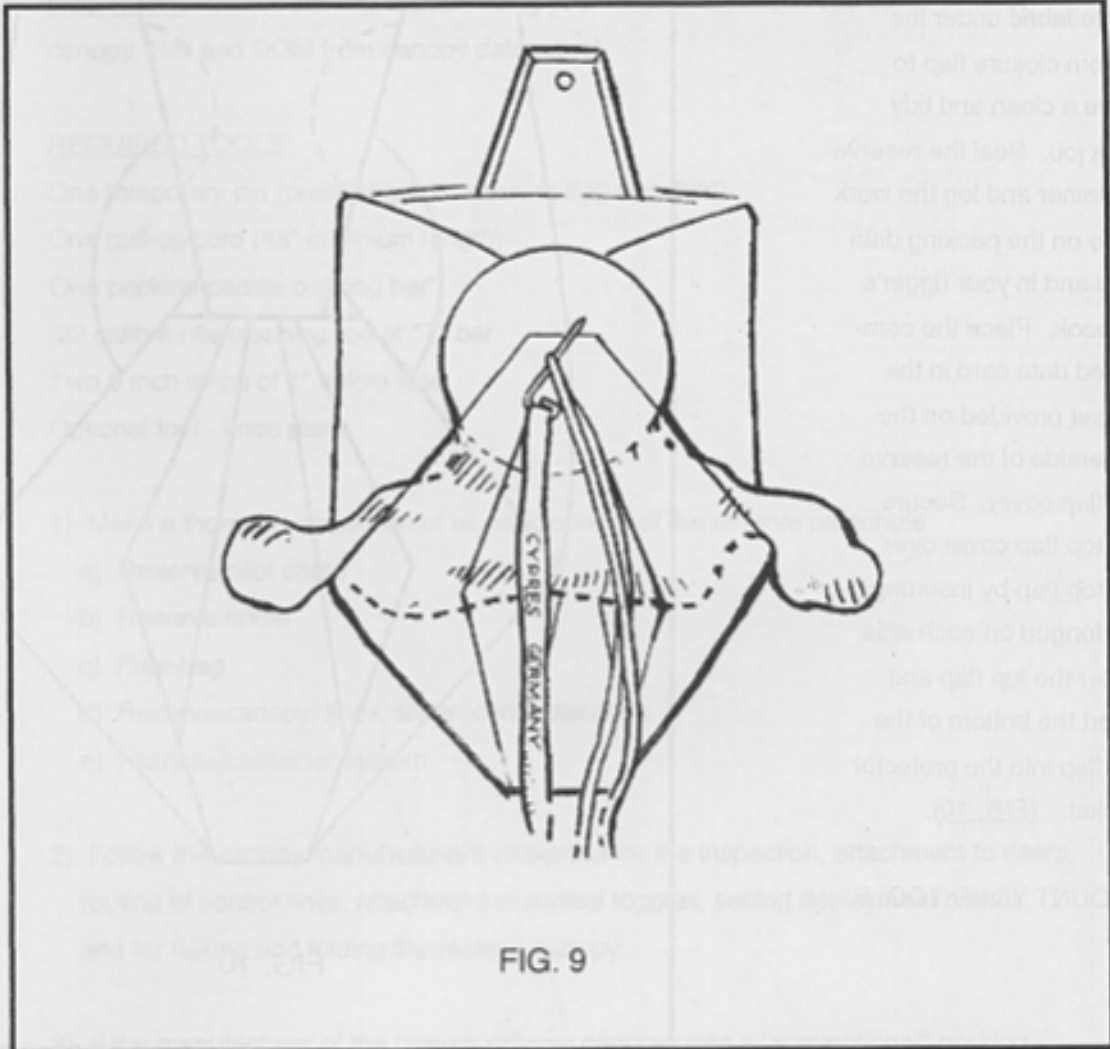

FIG. 9
- 12) Fan out the pilot chute fabric, so that it extends wider than the bottom flap. Be sure to keep the point of the fan narrow and tight to the middle of the bottom of the pilot chute top plate. Close the bottom flap and secure it with the temporary pin. (FIG. 9)